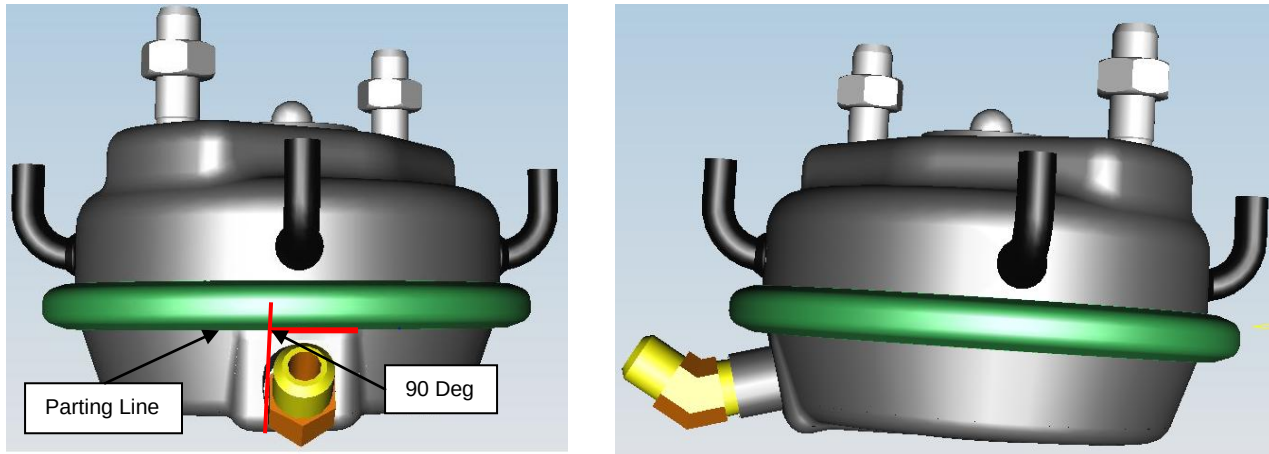

Figure 4A & 4B: Brake Chamber Hose Connector Orientation.
8. Check the orientation of the brake chamber air hose connections. The hose connectors should be oriented 90 degrees relative to the parting line of the brake chamber. Figure 4A & 4B.